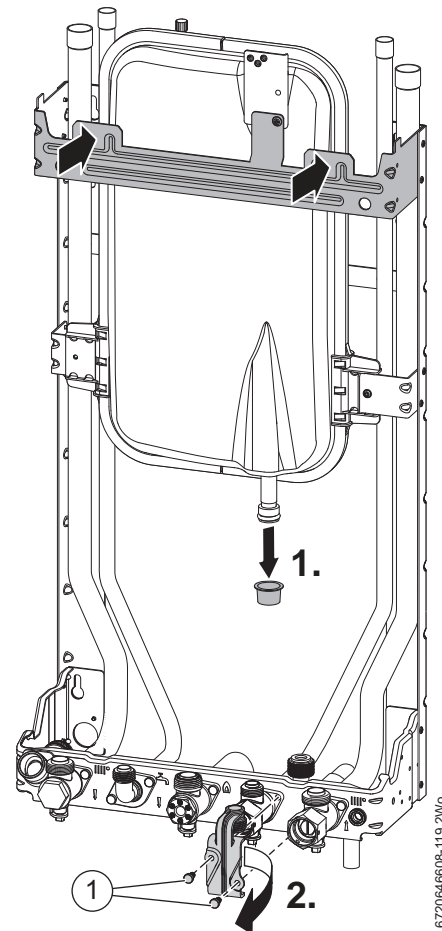

Fig. 33 Mounting points
Refer to figure 33
- ▶ Remove the two screws (1) holding the pre-plumbing connector in place.
- ▶ Replace the two screws (1) removed earlier and tighten firmly.
- ▶ The boiler is mounted on the wall frame utilising the two mounting points, indicated on figure 33, left and right at the top of the wall frame.